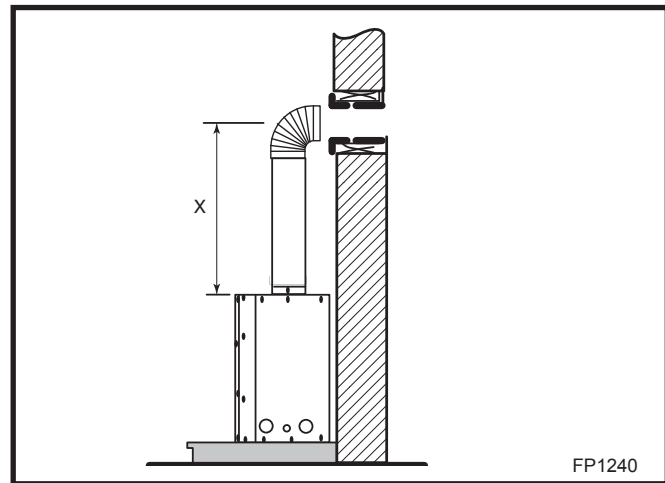

Fig. 20 Vertical height requirement.
Place fireplace into position. (Fig. 20) Measure the vertical height (X) required from the base of the flue collars to the center of the wall opening.